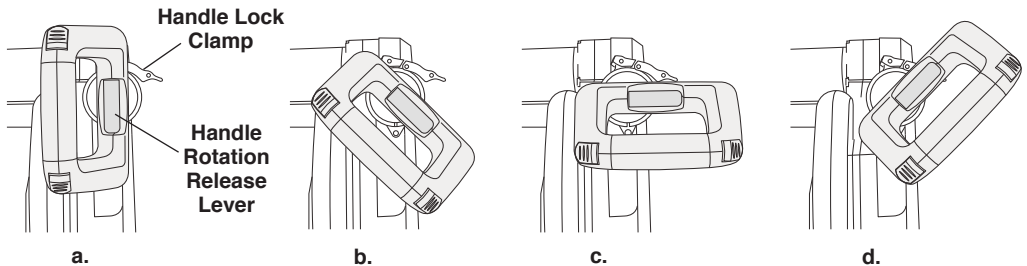

Figure 18. Setting Main Handle Position
1. Release handle clamp (Figure 18).
2. Pull and hold handle rotation release lever (Figure 18).
4. Let go over release lever to set handle into place. Release lever will retract down only in one of the four (4) positions